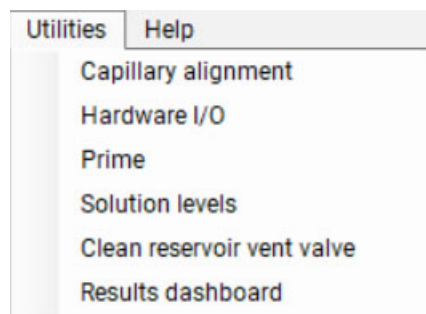

Figure 98 Utilities menu
- 1 From the **Utilities** drop-down menu, select **Results dashboard** (Figure 98).